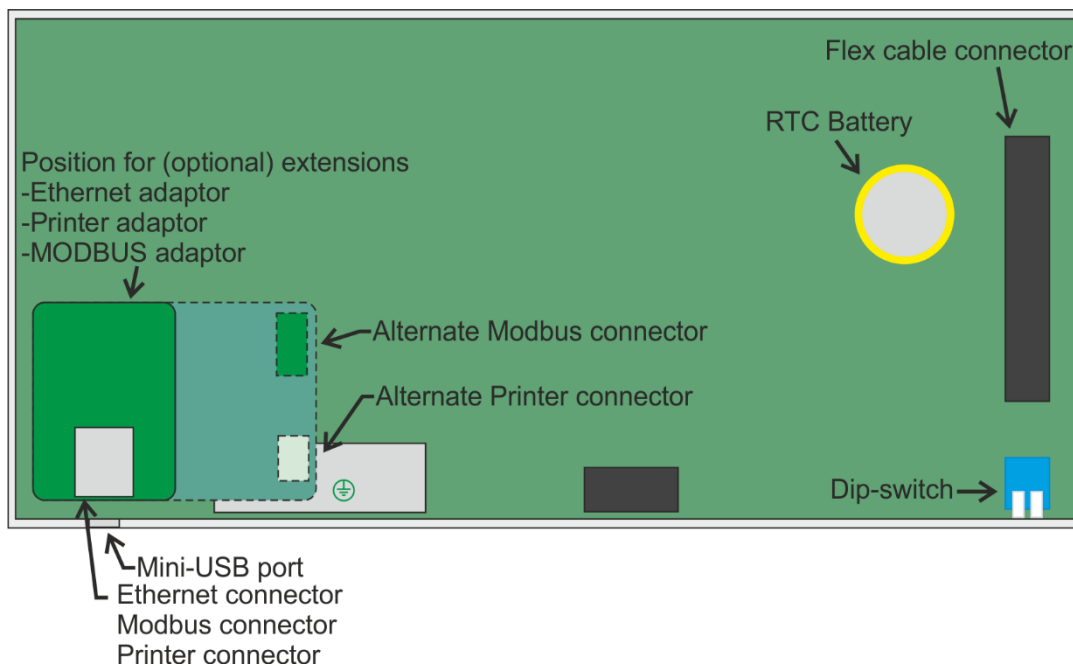

Figure4-14. Correct placement of Ethernet Adaptor, all the way to the left. (i.e., Use the first 10 pins from the left)
adaptor set up the IP address of the control panel via Technician menu and connect the network cable to the corresponding RJ45 socket on the adaptor (figure 4-14).
- **Printer:** To connect a printer adaptor, disconnect batteries and mains power and place it on the corresponding connector on the CPU board (same position of figure 4-14). Then power on the control panel and connect the batteries, go to Technician menu “**EXT. PCB FUNCTION**” and enable printer option. While the thermal printer is connected and enabled, all new events recorded will be printed on paper.
- **MODBUS:** To enable MODBUS communication between the control panel and a Building Monitoring System, a MODBUS adaptor must be installed. Disconnect batteries and mains power and place it on the corresponding connector on the CPU board (same position of figure 4-14). Then power on the control panel and connect the batteries, go to Technician menu “**EXT. PCB FUNCTION**” and MODBUS option. Select the control panel’s MODBUS address via “SELECT MODBUS ADDR.” option in Technician menu.